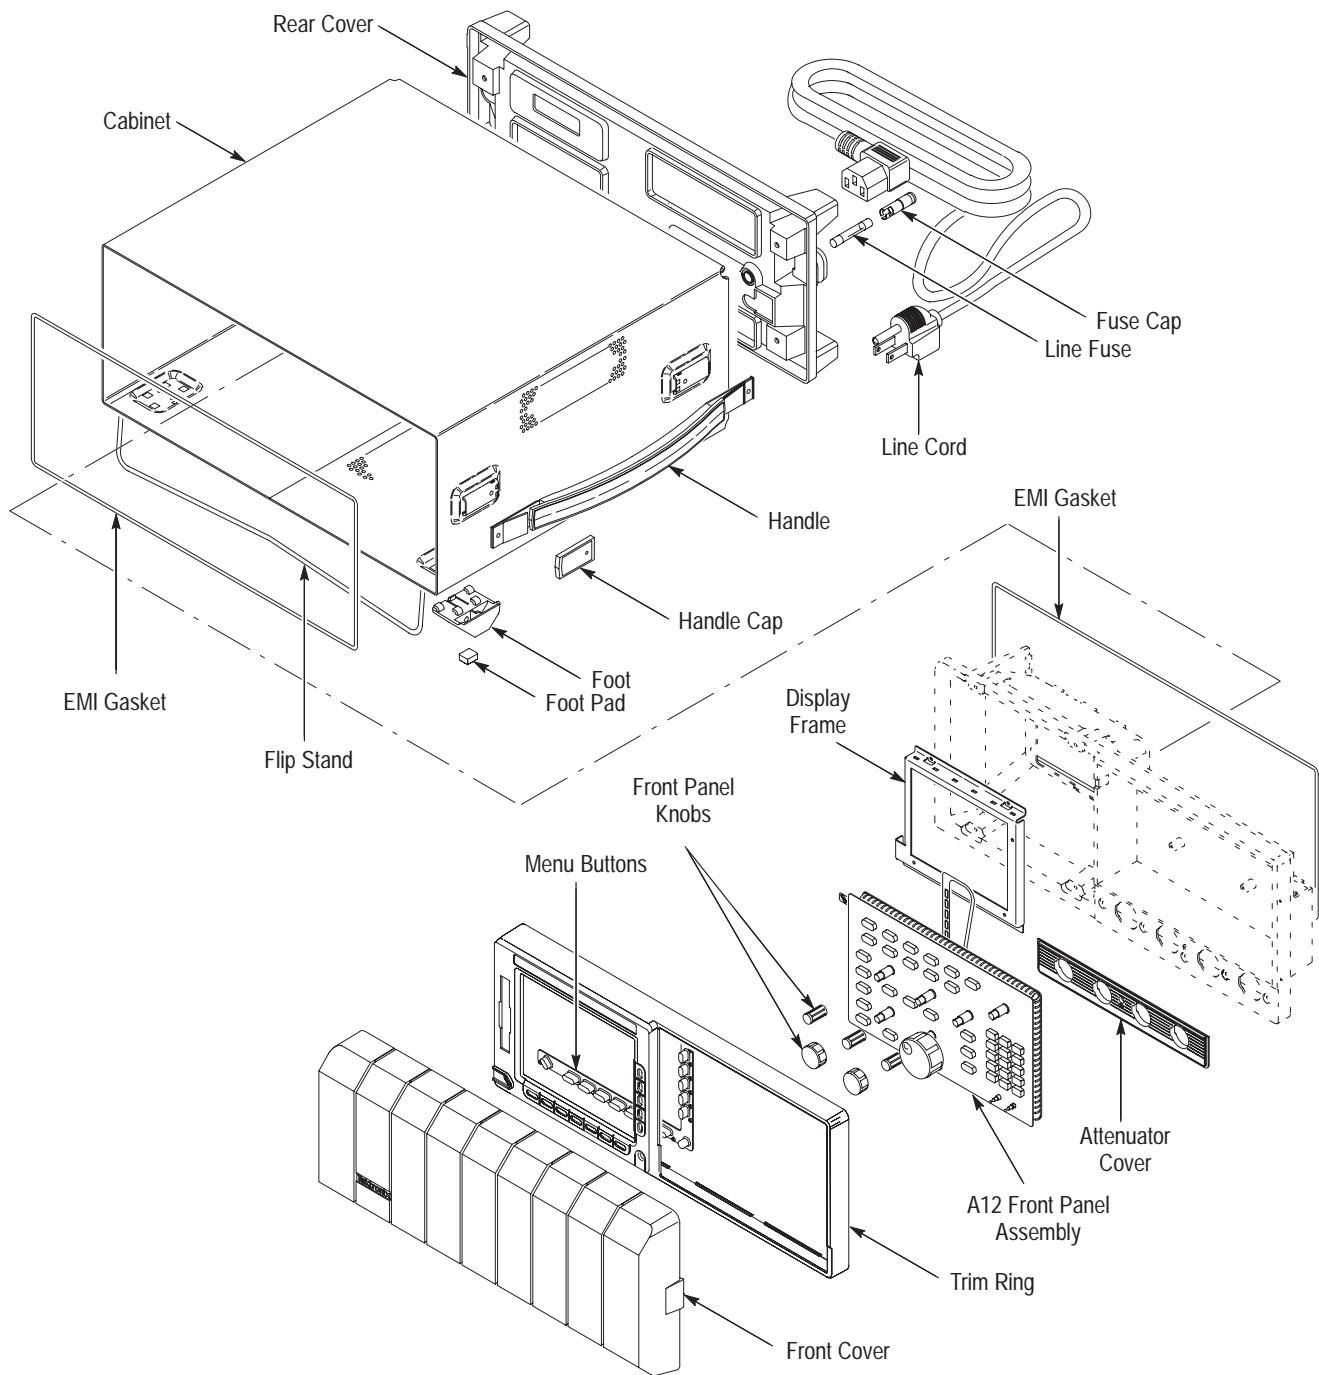

Figure 6-1: External modules
- 1. Assemble equipment and locate modules to be removed:** Have a flat-bladed screwdriver (Item 5) handy. Locate the line fuse and line cord in the locator diagram *External modules*, Figure 6-1.
- c. Locate the rear cover and cabinet in the locator diagram *External modules*, Figure 6-1 on page 6-12.